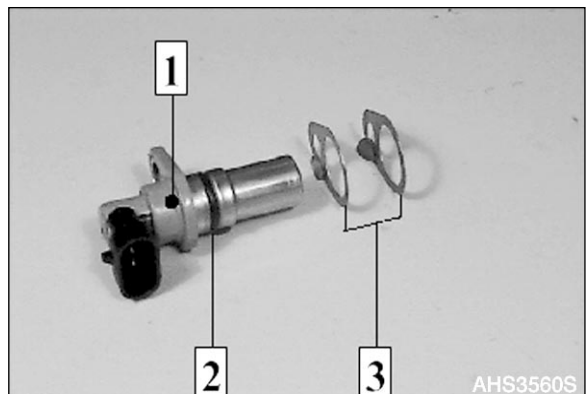

Figure 411
A. Figure 411, shows the speed sensor (Hall sensor).